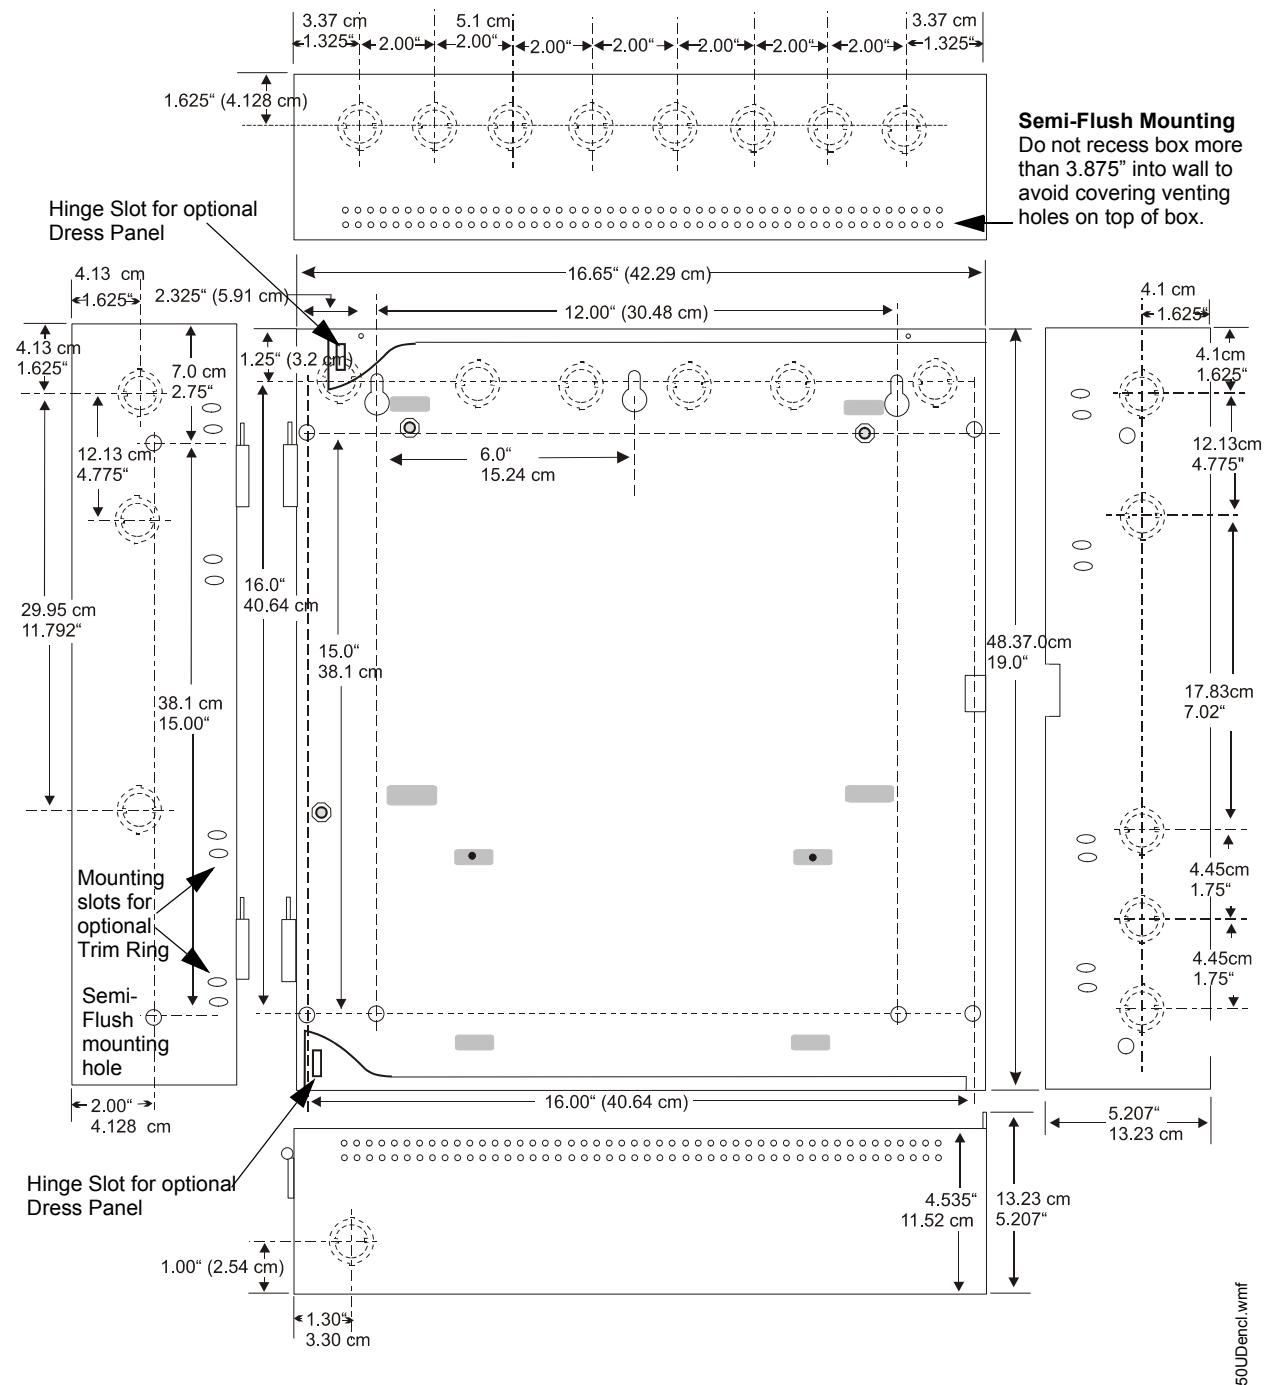

Figure 2.2 Cabinet Dimensions
1. Mark and predrill hole in the wall for the center top keyhole mounting bolt using the dimensions illustrated in Figure 2.2 on page 22.